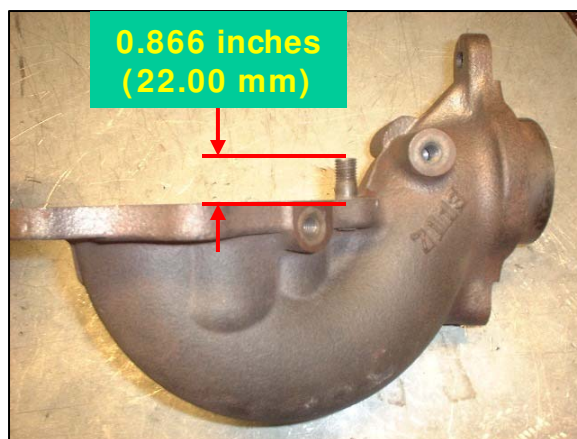

Fig. 35
37. Test-fit downpipe onto turbine housing with its OE gasket. The downpipe stud may or may not be too long to allow installation of the nut and washer depending on the turbine housing used. If the stud is too long, thread the nut all the way onto the stud, and cut the stud until 0.866 inches (22.00 mm) remains protruding from the downpipe. De-burr the freshly cut edge. Back the nut off completely to clean up remaining threads (ruler or calipers, hacksaw or cutoff wheel, file or deburring tool). See Fig. 35.